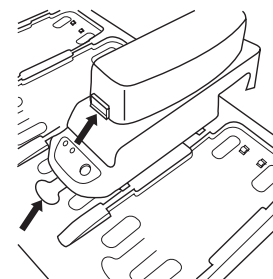

Fig. 2
5. Battery pack removal (Fig. 2):